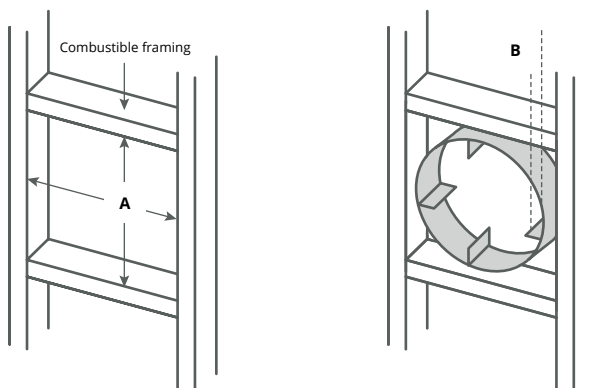

Figure 15.a Heat Shield Installation. (Install by sliding over vent pipe where it passes through the combustible construction).
Measure the vertical height from the fireplace hearth to the centre of the termination and the horizontal run from the fireplace flue collar to the wall flange of the termination. Plot on the Venting Graph Figure 15 with an 'X'.
- Vent runs must fall within the limits set by the venting graphs, see Figure 15.